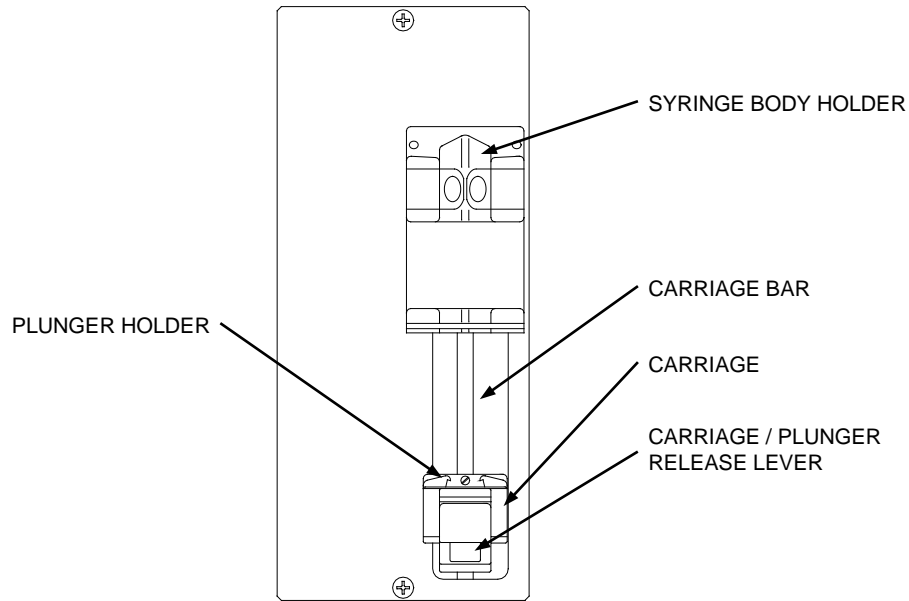

Figure 6. Heparin Pump Module.
6. When the carriage has stopped, press the [Escape] key and clean the carriage bar (See Figure 6).